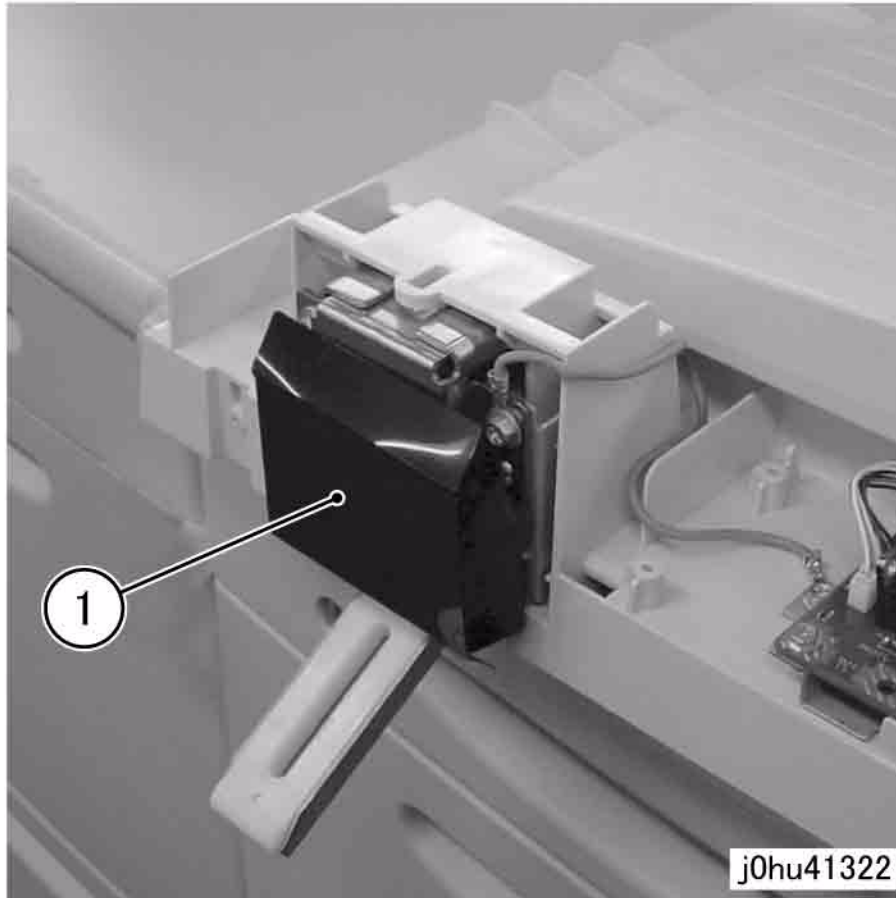

Figure 1 Remove Film Cover
3. Remove the Film Cover (Figure 1).